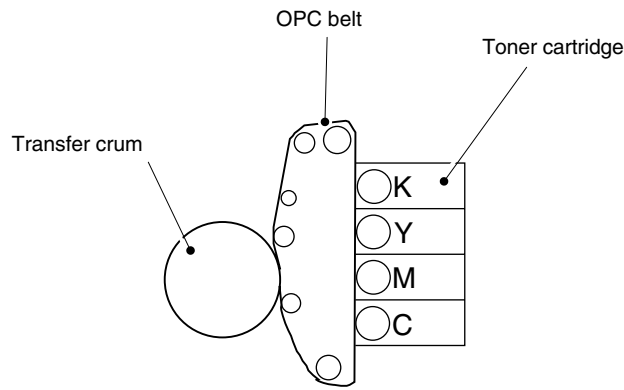

Fig. 4-3
- (a) The printer has a toner cartridge of each color yellow, magenta, cyan and black as shown in Fig.4-3.